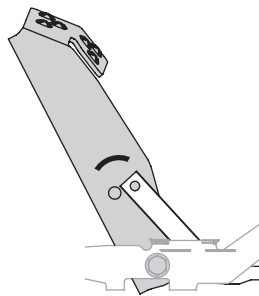

Figure 34
3. Position the pedal to the optimal position based on user preference (Figure 34).